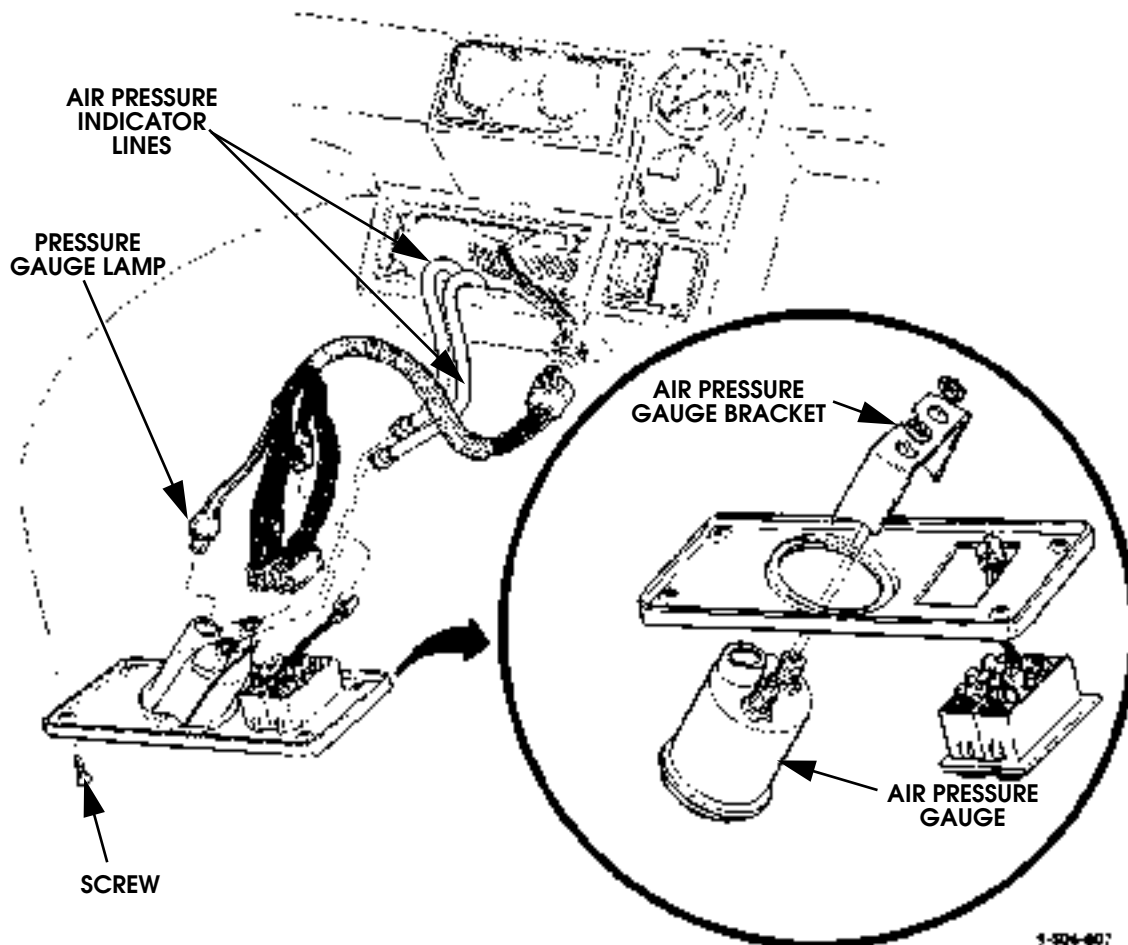

Figure 6-57: Air Pressure Gauge
2. Remove lamp from air pressure gauge (Figure 6-57).
4. Remove two nuts, lockwashers, air pressure gauge, and bracket from CTIS instrument cluster (Figure 6-57). Discard lockwashers.
1. Install air pressure gauge and bracket on CTIS instrument cluster with two nuts and lockwashers. Tighten nuts to 8 lb-in. (0.9 N•m) (Figure 6-57).